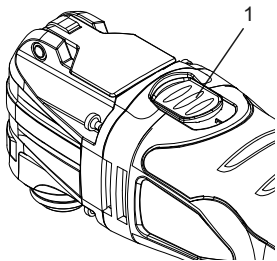

Figure 4
1. To turn the tool ON, slide the ON/OFF switch (1) toward the front of the tool. (Figure 4)